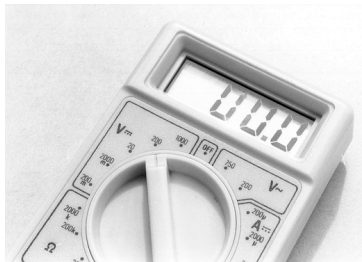

Fig. 13
- (ii) The display of the multimeter shown in Fig. 13 is a liquid crystal display (LCD).